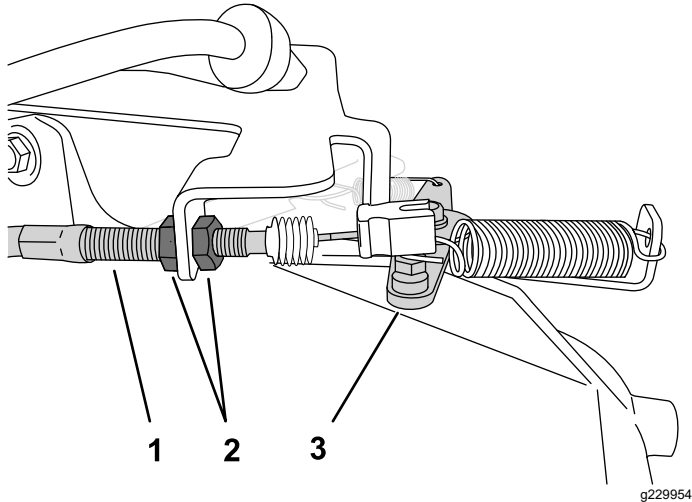

Figure 43
- At the throttle cable housing, loosen the forward jam nut and tighten the rear jam nut to increase the low idle (Figure 43).